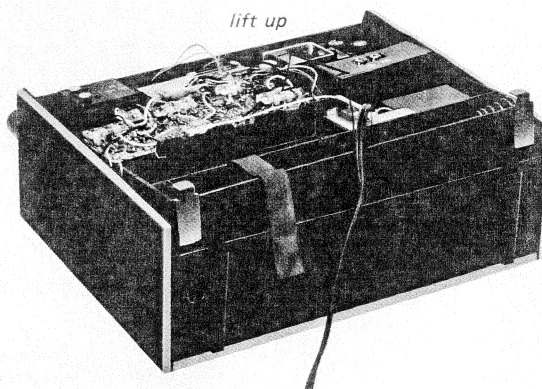

Fig. 2-4. Chassis removal
7. Lift up the chassis as shown in Fig. 2-4.